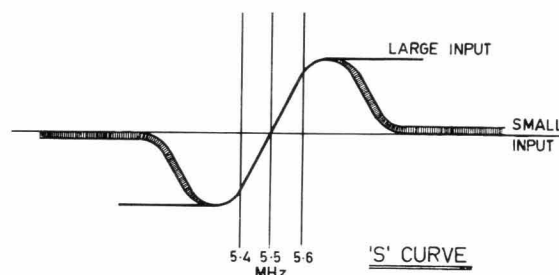

Fig. 3
- Transfer display unit to junction of R131 and C143 and adjust the core of L113 for a waveshape symmetrical about 5.5 MHz (See Fig. 3).